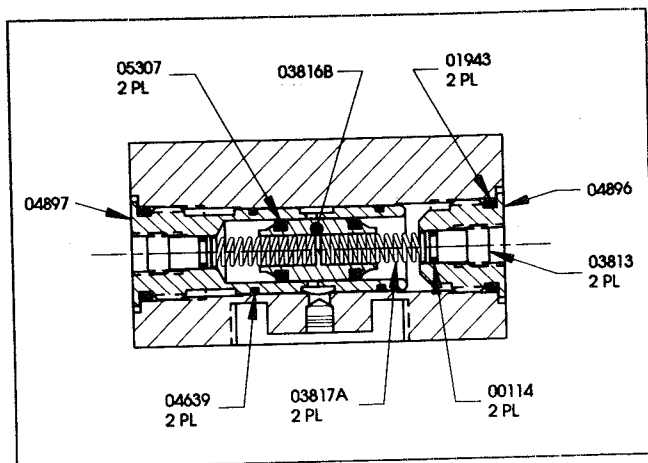

Figure 16
7.0 BYPASS DISASSEMBLY/REASSEMBLY- BOTH SIDES, REAR OF MICROBLENDER (FIGURE 16)